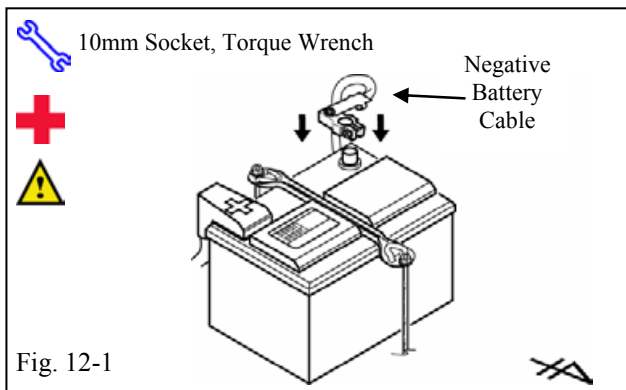

Fig. 12-1
- (1) Verify the panels fit together properly, with no uneven gaps.
- (b) Position the Negative Battery Cable at the original factory position. (Fig. 12-1)
- (1) Tighten the Nut to 36 in•lbf ± 1.5 (40.67 n•cm ± 1.7)